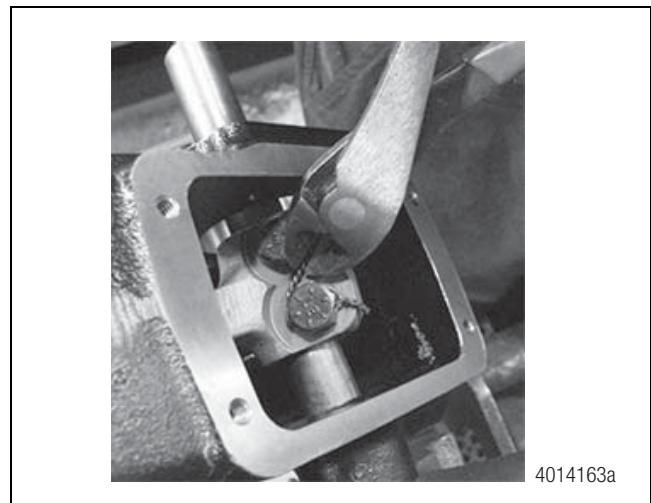

Figure 5.14
8. Remove the shift shaft. It may be necessary to carefully pry open slightly the slot in the shift fork to free the shaft. Lift out the shift collar and the shift fork. Figure 5.14.